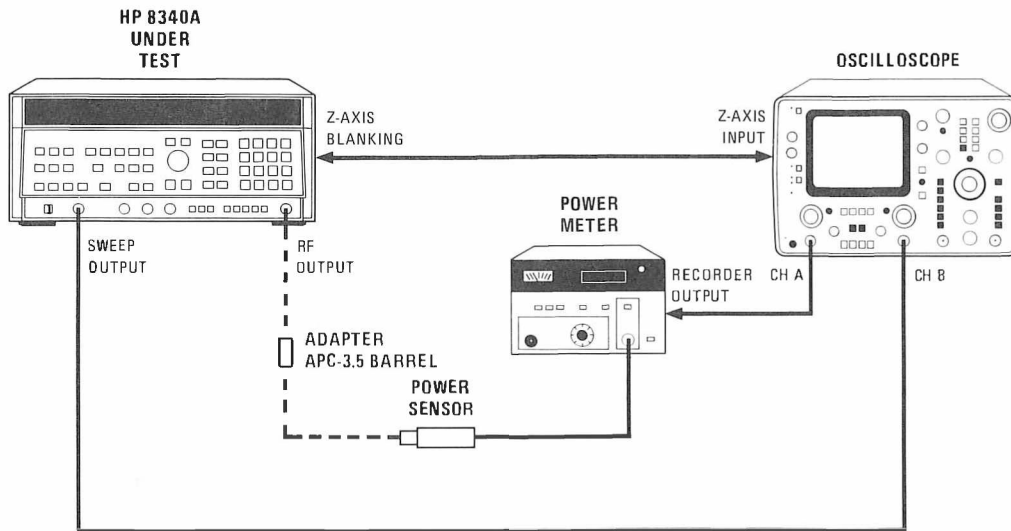

Figure 5-58. Flatness Verification Test Setup
1. Connect the equipment as shown in Figure 5-58. Connect the HP 8485A Power Sensor to the power meter. Allow at least 30 minutes warm up time. Set the power meter calibration factor switch for 2.4 GHz, then zero and calibrate the power meter before connecting the power sensor to the HP 8340A Under Test.